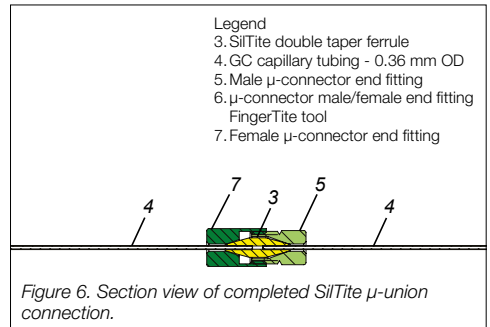
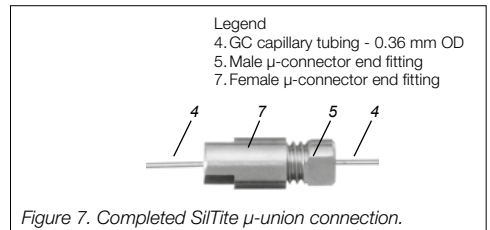

Figure 6. Section view of completed SiITite  $\mu$ -union connection.
Figure 7. Completed SiITite  $\mu$ -union connection.
4. Insert the capillary into the double taper ferrule and screw the male  $\mu$ -connector end fitting (5) into position making sure the capillary seats inside the ferrule – there is a stop designed within the ferrule. Gently tighten the male  $\mu$ -connector end fitting with your fingers until you feel resistance, while ensuring the capillary end is against the stop inside the ferrule. Locate one of the FingerTite  $\mu$ -connector male/female end fitting tools (6) and slide it over the capillary via the slot cut into the tool, onto the male  $\mu$ -connector end fitting (5). To swage the ferrule, gradually tighten the male  $\mu$ -connector end fitting until the ferrule just begins to hold the capillary, then tighten a further 60° (see Fig. 2 and Fig. 7).
You have now completed both stages of the SiITite  $\mu$ -union connection (see Fig. 6 and Fig. 7).